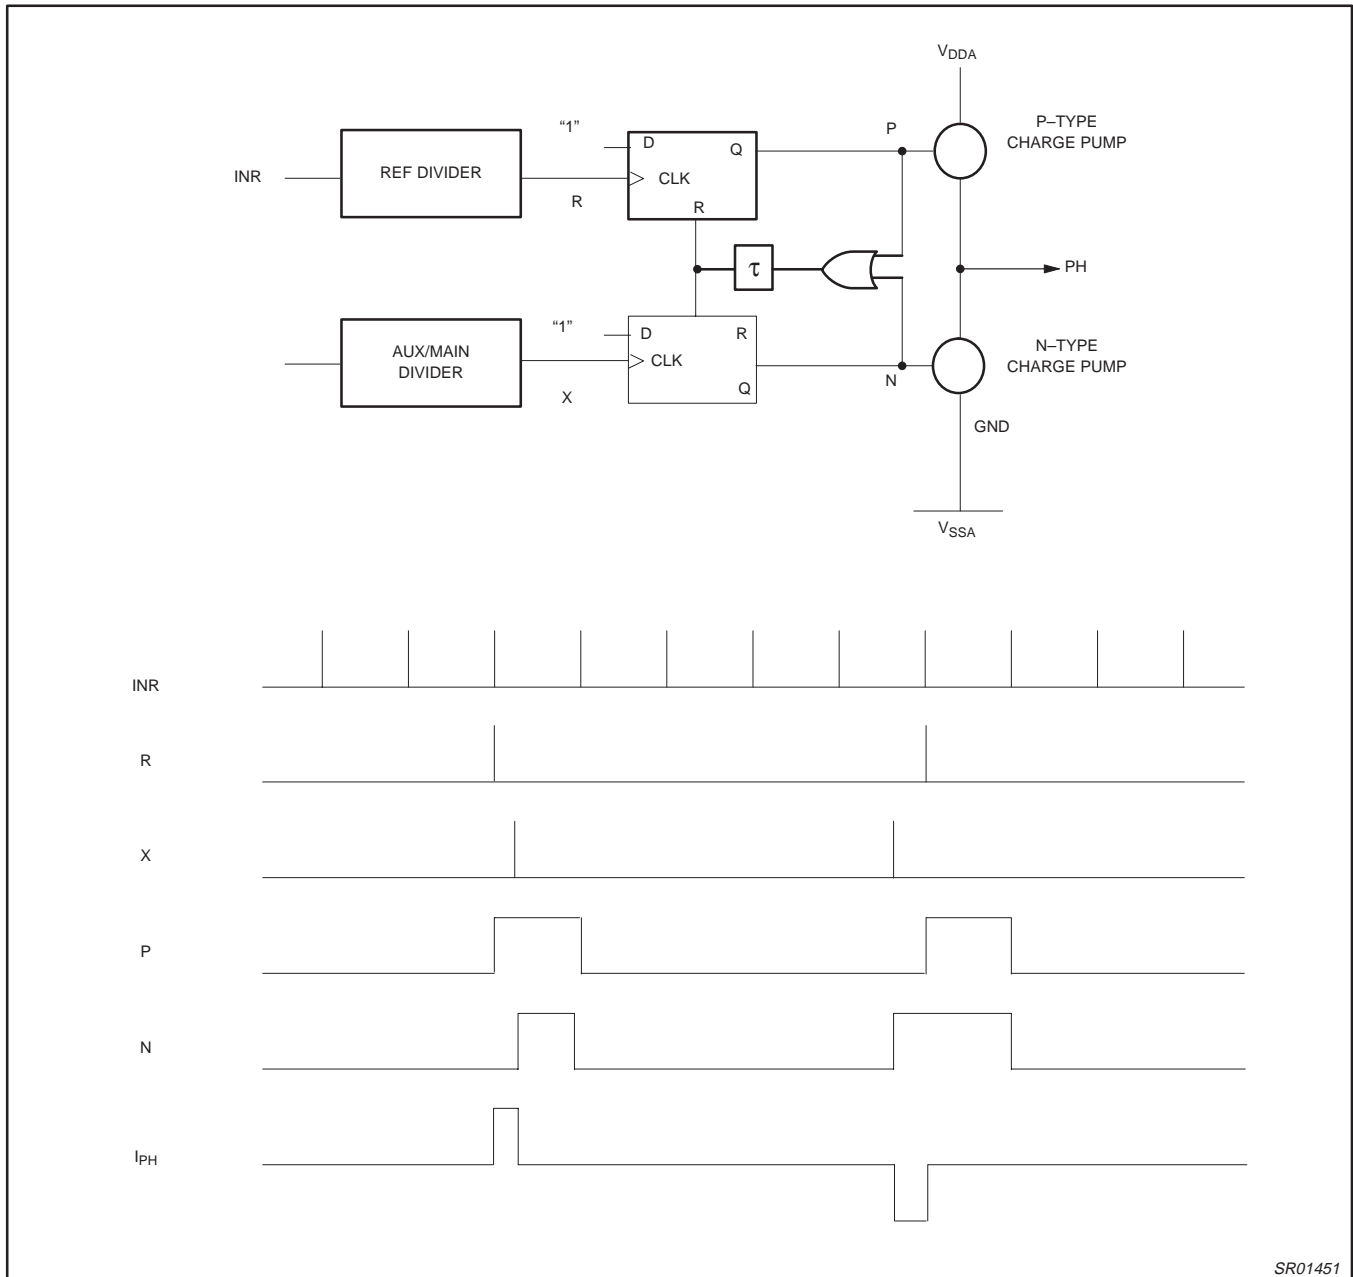

Figure 9. Phase Detector Structure With Timing
**Phase Detectors (Figure 9)**